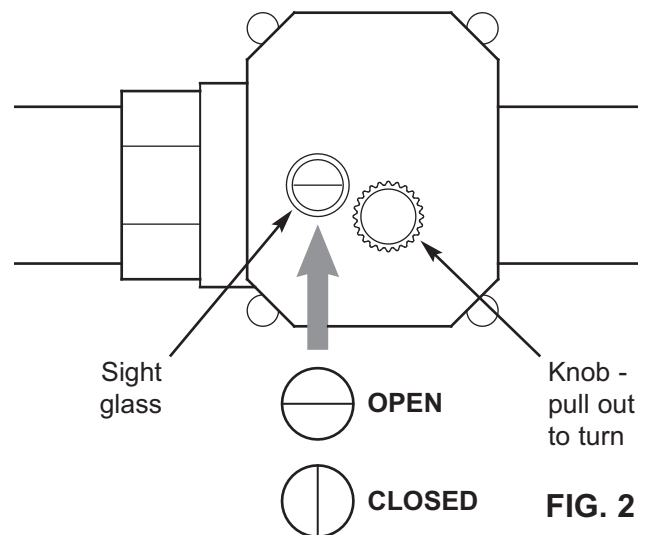

FIG. 2
To manually operate the motorized water shutoff valve, pull out the round knob on the valve and turn it until the red line in the sight glass matches the desired (open or closed) position. See Figure 2. If you manually operate the valve, the app's "Water Control" feature will be disabled until you reset it by clicking "Yes" next to the "Regain Control?" prompt.
**NOTE:** The shutoff valve may be operated manually by pulling out and turning the knob on the shutoff valve body (See Fig. 2 on Page 1), although there is no need to do this when installing.